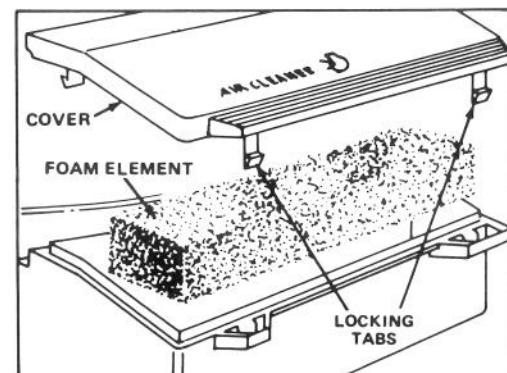

Figure 15
- Push in locking tabs and lift off air cleaner cover. Clean cover thoroughly (Fig. 15).
- If top of foam element is dirty, remove it from air cleaner body (Fig. 15). Clean thoroughly.